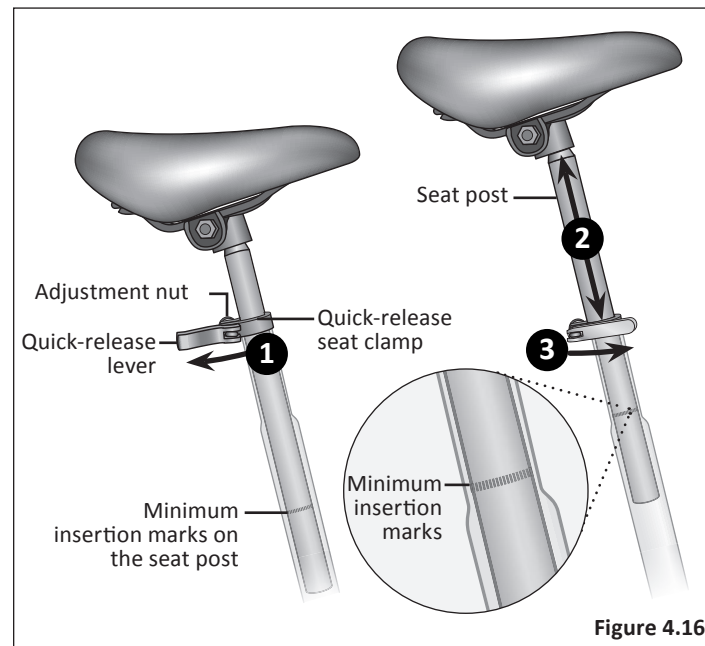

Figure 4.16
- ❶ Unlock the quick-release lever. **Figure 4.16**
- ❷ Adjust the seat height up or down until the rider feels they have control of the bicycle and are comfortable.